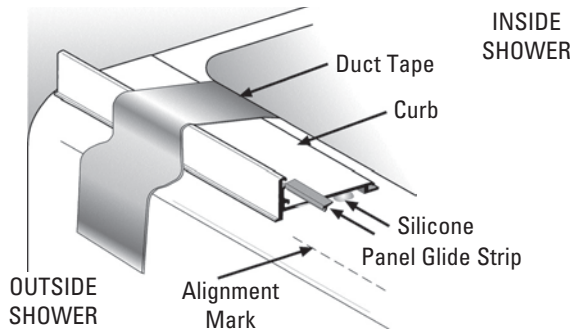

Figure 2
- C. Locate Curb (#2). Remove the Panel Glide Strip (#12) from the Curb (#2) (See Figure 2).
- E. Locate the Panel Glide Strip (#12) (See Figure 2) and, using the Wire Cutters, cut it 3/8" shorter than the Curb (#2). Re-install the Panel Glide Strip (#12) into the Curb (#2) so that the ends of Panel Glide Strip (#12) are evenly spaced at each end of the Curb (#2).
- F. Cut two (2) pieces of Duct Tape 12" long. Next, use the Caulking Gun and apply a thick bead of Silicone sealant (approximately 3/8" in diameter) to the bottom surface of the Curb (#2) as indicated in Figure 2. Position the Curb (#2) on the tub sill, aligning with the marks you made in Step 3B. Use the two (2) strips of Duct Tape to temporarily secure the Curb (#2) in place. **DO NOT** place the tape within 2" of the wall.